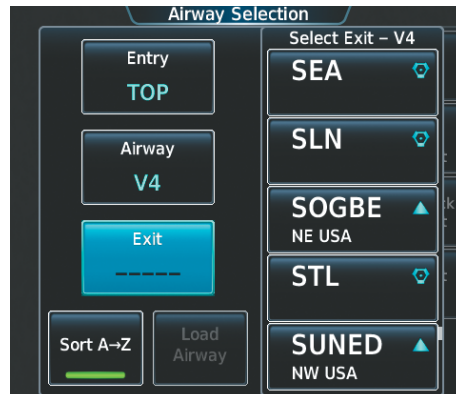

Figure 5-155 List of Available Exits for V4
- h) Touch the **V4** Button to select the airway, and to display the list of available exit points for V4. Scroll the list to find SLN (Figure 5-155).